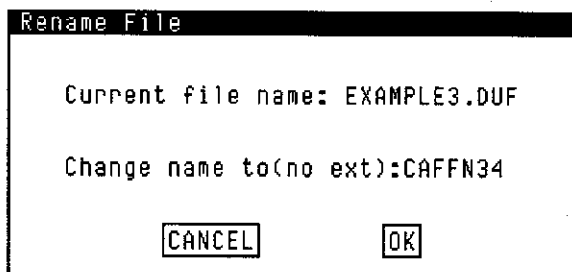

Figure 8-2. Rename File Window
4. Click on **<Rename>**. The Rename File window, Figure 8-2, is displayed.